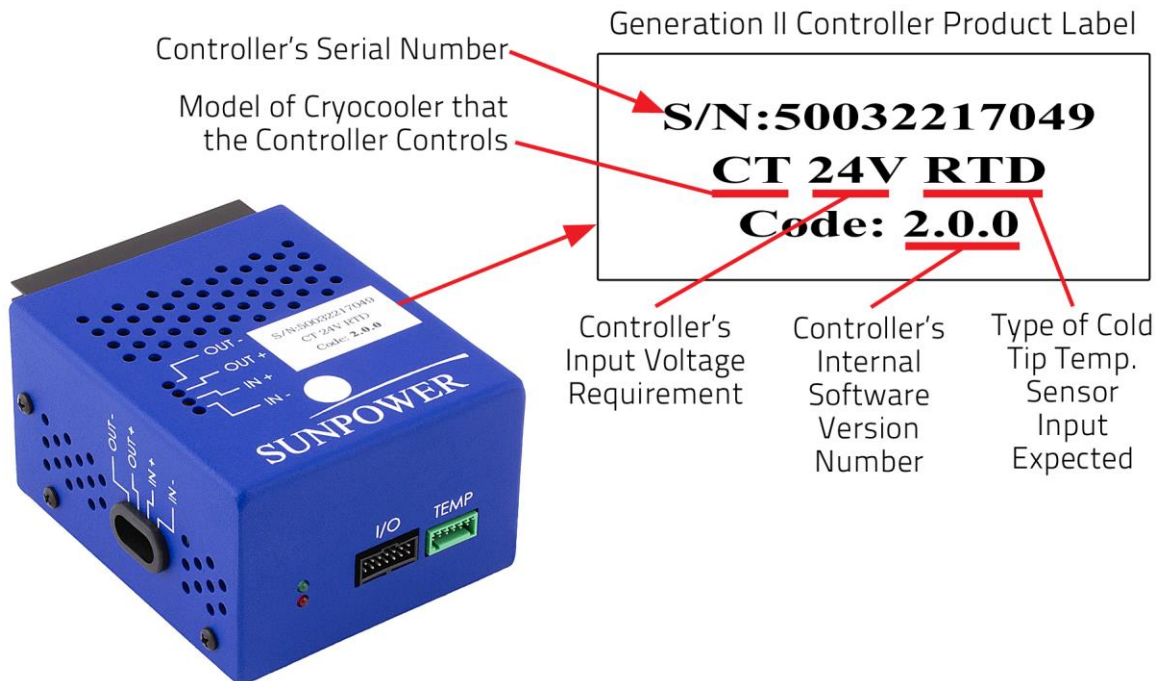

Figure 3-2. Product Label on the Generation II Controller
Figure 3-2 shows the location of the controller's product label (on the top of the controller) and a closeup of the label. The label lists the serial number of the controller, the type of cryocooler it controls (CT), the controller's input voltage requirement (24 V), the type of cold-tip temperature sensor input it uses (RTD), and the controller's software version number (v2.0.0). The serial number can also be displayed on the connected computer using the **SERIAL** command in the terminal emulation software.